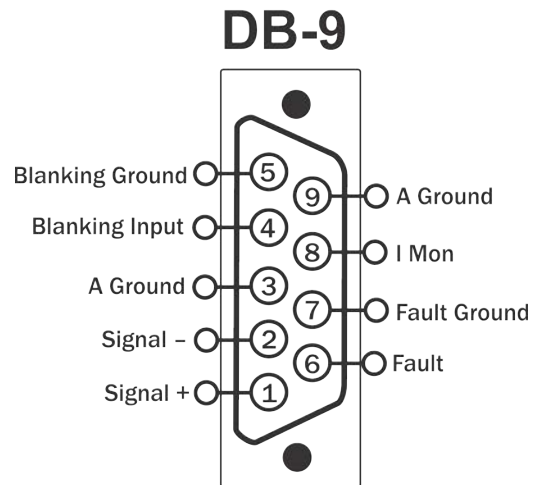

Figure 6.2 – DB-9 Control Port Pinouts
**Figure 6.2** maps the pins used for these applications.